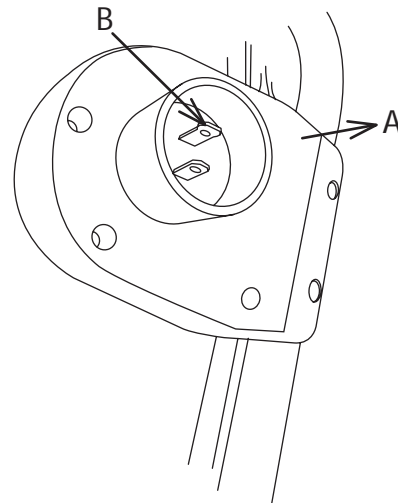

Figure 19
3. Note that the snow thrower has a polarized male plug, with one prong in the switch housing socket slightly longer and wider than the other (Fig. 19). The extension cord female end should be likewise polarized, so that the extension cord fits snugly into the switch housing socket.